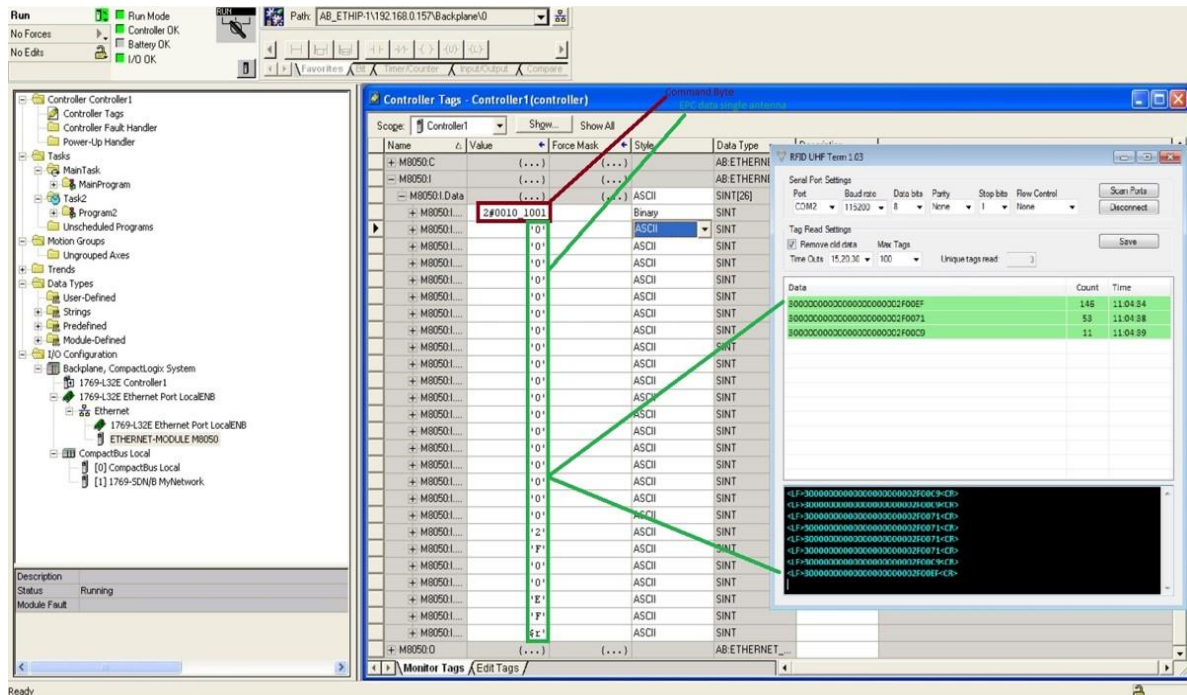

Figure 5 - Single Antenna EIP
Figure 5 is an example of the Single Antenna EIP data frame consisting of 26 bytes and is divided into Byte 0 = Command Byte (red), Bytes 1 to 24 = EPC tag data (Green). Byte 25 is always set as 0x0D (carriage return).
- Byte 0 Command Byte (Figure 5 Red)
- Byte 1 New Antenna toggle bits (Figure 5 Orange) (see table 2)
- Bytes 2:7 Antenna 1 data (Figure 5 Green)
- Bytes 8:13 Antenna 2 data (Figure 5 Blue)
- Bytes 14:19 Antenna 3 data (Figure 5 Purple)
- Bytes 20:25 Antenna 4 data (Figure 5 Violet)